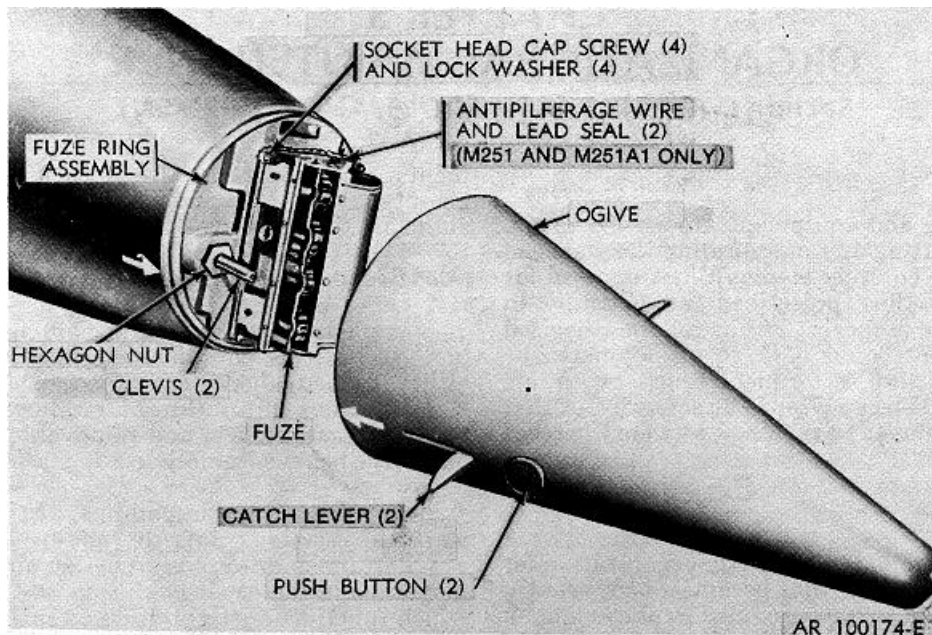

Figure 3-1. Fuze ring assembly and ogive.
a. Disengage ogive by depressing two pushbuttons (fig 3-1). Catch levers should swing outward. If this does not occur, a screwdriver may be used to pry the
f. Rotate ogive clockwise to align telescope tube guide pin and lengthwise slot which will allow ogive to slide aft. Slide ogive aft, keeping painted arrow on ogive aligned with arrow on warhead section, until closed, then depress two catch clamp levers. Clamps will engage devices (fig. 3-1) and lock ogive to fuze ring assembly. If the telescope tube does not move freely, refer to paragraph 3-6.6 for maintenance procedures. If ogive cannot be locked, or is too loose, refer to paragraph 3-6.d for adjustment of clevises. There should be no lateral movement of ogive.
g. Conduct remainder of prefire inspection (table 2-3, item 2).
(1) Disengage ogive (fig. 3-1) from warhead section by depressing two pushbuttons, one on each side of the ogive. As pushbuttons are depressed, catch levers will swing out. If the levers do not swing out, a small screwdriver may be used to pry the levers out. Refer to para 3-6.(4) for lever lubrication procedures.